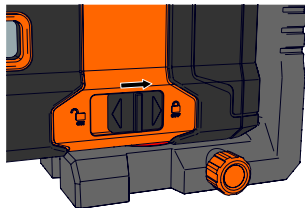

Figure 16
- Slide the locking compensator to the right to the locked (OFF)  position to power off the unit. (Figure 16)